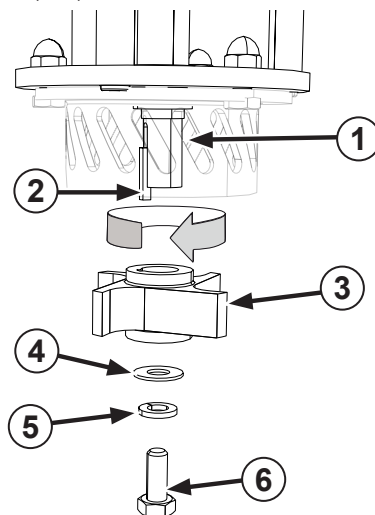

Figure 11. Impeller Rotor
NOTE: It is important to install the impeller rotor in a specific orientation, see rotation in Figure 11. Impeller Rotor below.
1. Install the key (2) into the keyseat on the shaft (1)
2. Noting the specific orientation, see rotation in Figure 11. Impeller Rotor. Align the key to the keyway on the impeller rotor (3) and install to the shaft.
3. Secure with a flat washer (4), split washer (5), and cap screw (6) and tighten to specification. See "Information Tables" on page 40.